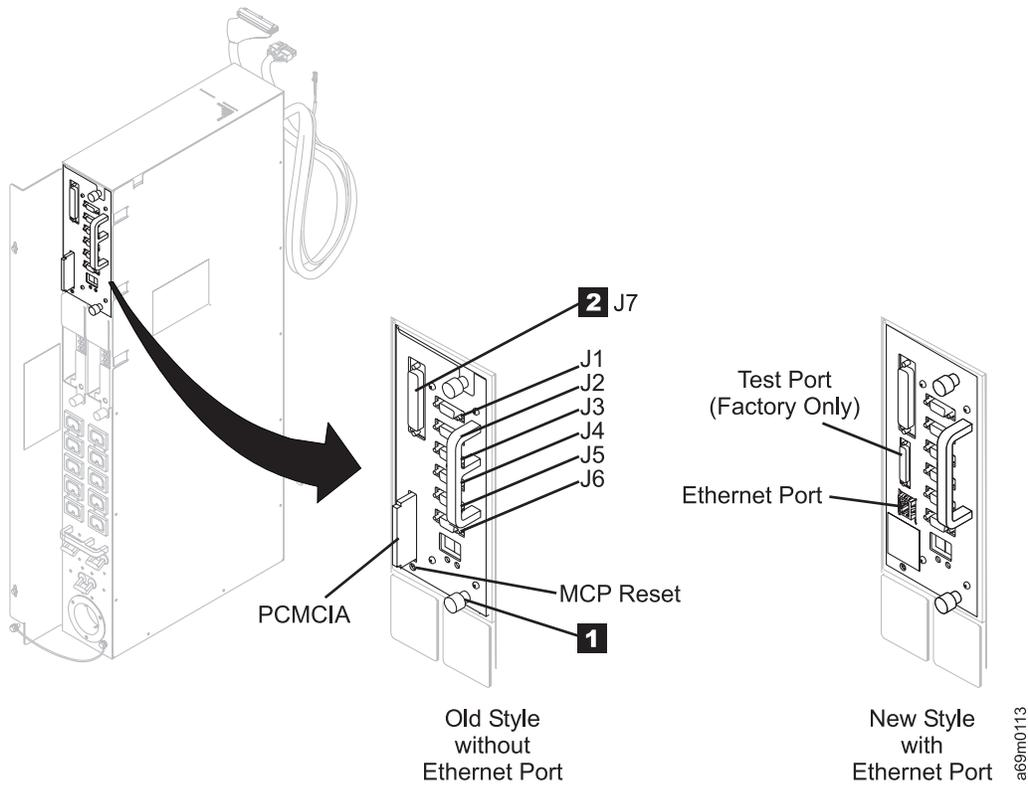

Figure 97. Media Changer Pack
3. Refer to Figure 97 on page 565 and loosen the two knurled screws **1** that hold the MCP to the FCA.